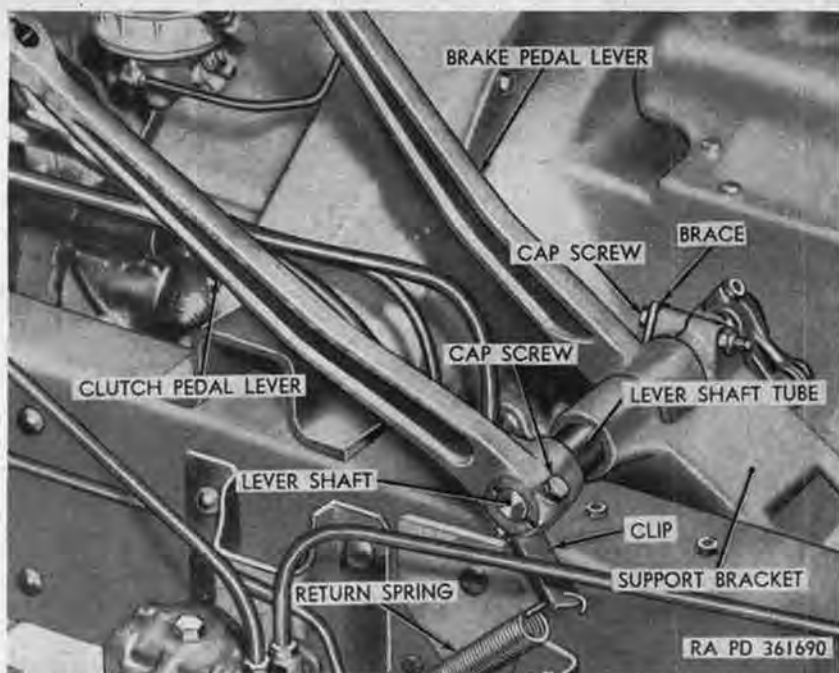

Figure 244. Brake and clutch pedal mounting.
- (1) Remove safety nut and cap screw from upper end of clutch pedal lever (fig. 244), and remove clutch pedal stem from
- (2) Unhook upper end of clutch pedal return spring (fig. 244) from clip bolted to lower end of clutch pedal lever.
- (3) Remove safety nut and cap screw (fig. 244) from lower end of clutch pedal lever, and remove lever clip, and key from lever shaft.
- (5) Remove safety nut and cap screw from upper end of brake pedal lever (fig. 244), and remove brake pedal stem from lever. Remove rubber bumper from stem, and remove brake pedal from top side of floor board.
- (9) Remove safety nut and cap screw (fig. 244) from upper right side of support bracket, and remove lever shaft tube with shaft and bushings from brake pedal lever and support bracket.
- (1) Position brake pedal lever (fig. 244) at support bracket, and install lever shaft tube with shaft and bushings in bore of bracket and lever, making sure that groove in lever shaft tube is alined with cap screw hole in upper right side of support bracket to permit insertion of cap screw.
- (2) Aline hole in upper end of support bracket brace (fig. 244) with cap screw hole in upper right side of support bracket, and install cap screw in holes in brace and bracket. Install safety nut on cap screw, and tighten.
- (5) Install clutch pedal lever (fig. 244) and key on shaft. Position return spring bracket clip at lower end of lever, install cap screw in holes in lever and clip, and install safety nut on cap screw. Tighten nut on cap screw.
- (6) Hook upper end of clutch pedal return spring to clip at lower end of clutch pedal lever.